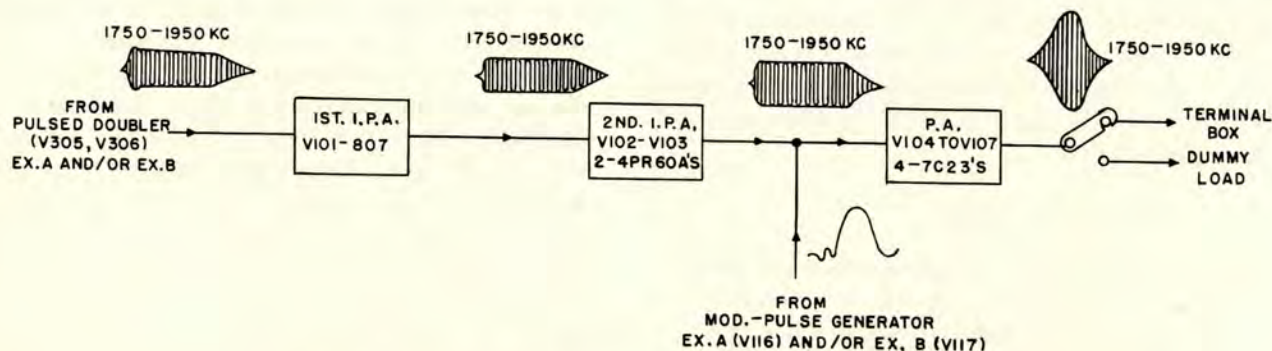

Figure 2-9. Block Diagram of IPA and PA Stages
a. BLOCK DIAGRAM. — As shown in the block diagram (figure 2-9), three stages of power amplification are used to develop a peak power output of 160 kilowatts at any one of five frequencies (1,750, 1,800, 1,850, 1,900, or 1,950 kc). Input is supplied periodically to the first IPA at one of these frequencies for durations of approximately 100 microseconds, the period being determined by the loran timing equipment and the duration being determined by the rectangular-pulse output of the pulse former. The two IPA stages in cascade amplify the pulses of r-f input and supply excitation to the PA. With no other input to the PA, the r-f excitation produces no output in the PA plate circuit because of the high cutoff bias. However, when the output of the modulation-pulse generator is supplied to the PA coincidentally with the r-f drive, the PA develops r-f output for the duration of the modulating pulse, and the envelope of the r-f output is very similar to the specially shaped pulse supplied by the modulation-pulse generator. During normal operation, the modulated r-f output pulses are fed to the terminal box, whence they are directed to the Antenna Coupling Unit. For tuning or testing purposes on a stand-by transmitter, however, the PA output may be fed to a dummy load provided within the transmitter.